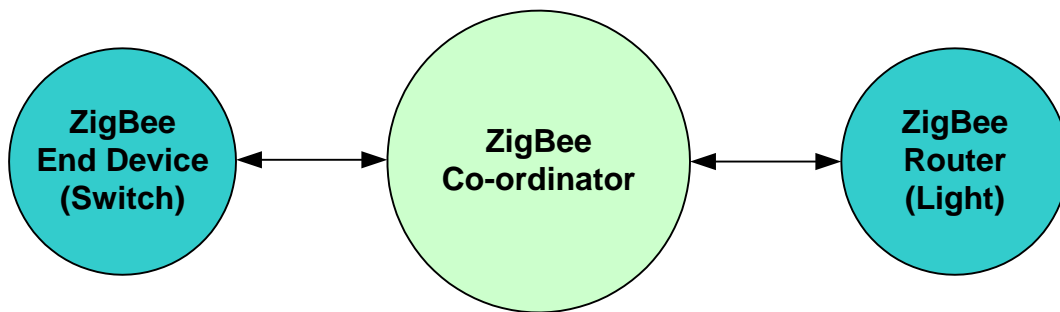
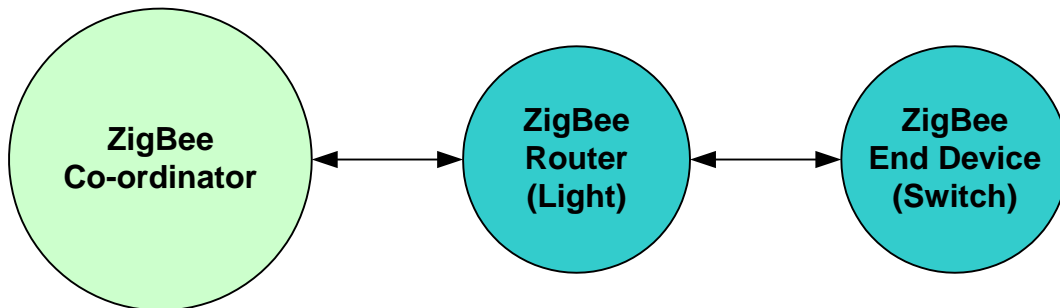

Figure 1: Topology with All Devices Joining the Co-ordinator
Figure 2: Topology with End Device (Switch) Joining the Router (Light)
The possible network topologies are shown below in Figure 1 and Figure 2. The End Device (switch) can join either the Co-ordinator or the Router (light). The topology can be forced by enabling joining (pressing button SW1) on either the Co-ordinator or Router (light).
3. Press button SW1 on the Co-ordinator to allow joining (depending on the desired topology – see Figure 1 and Figure 2).